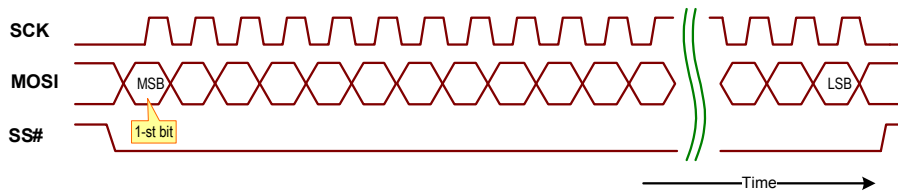
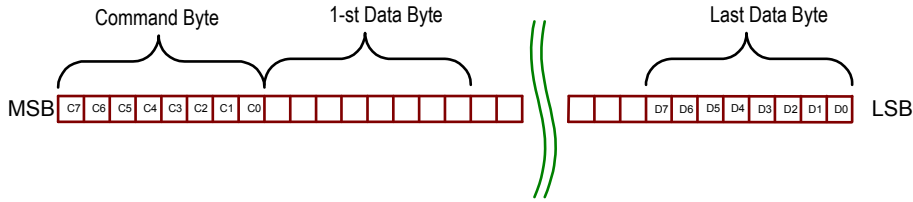

Figure 14: LNO SPI writing cycle diagram
Figure 15: Command and data bytes
LNO SPI commands consist of one command byte C[7:0] following by N data bytes. Number of data bytes (N) depends on the particular command. Data on LNO_MOSI signal line are latched on rising edge of LNO_SCK signal as shown on figure 14. MSB (Most Significant Bit) is loaded first, LSB (Least Significant Bit) – last. The first is the command byte C[7:0] all other bytes are data (fig. 15). The command byte works as the address for multiplexer implemented in CPLD and defines the destination where to transfer following data – to one of the SPI channels or to one of the static registers, and the type of operation – writing or reading.